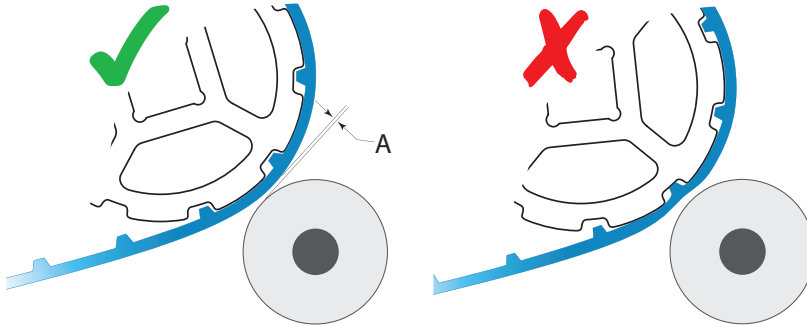

Figure 13
- Set roller limiters with a maximum 0.02 in (0.5 mm) spacing between the seated belt and the roller (Figure 13, A).
- Keep a sprocket tooth beneath the belt when setting the roller limiter (Figure 13). If the gap between sprocket teeth is under the roller during installation, the roller can be installed too close to the sprocket. Poor installation can cause belt pinching at startup and belt damage.
- Keep a sprocket tooth beneath the scraper when mounting, as with rollers (Figure 13), to prevent belt pinching at startup. Pinching can cause belt damage and increased scraper wear.